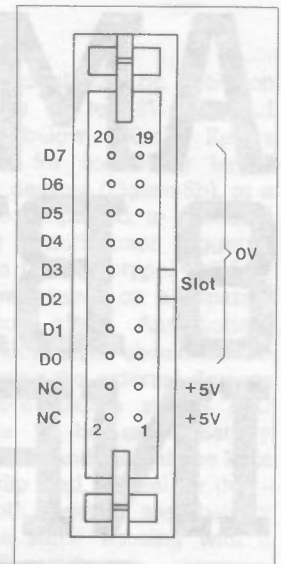

Figure 3. Header Plug.
0.1μF decoupling capacitors. Then fit PL1 and the IDC cable of your choice, with the stripe on the cable at the pin 1 end of the legend! Lastly, fit the link previously selected from Table 1, and proceed to solder all connections and check the PCB for dry joints, short circuits, etc. Fit all IC's into their sockets, noting correct orientation. Figure 3 shows PL1 pin connections looking into the connector, onto the pins.